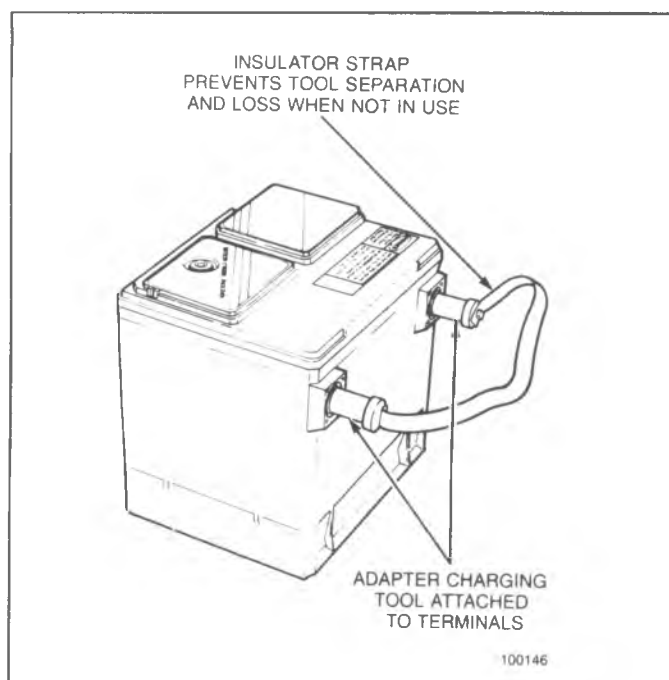

Fig. 6D-3B--Side Terminal Battery Adapters
- If voltage does not drop below the minimum listed in Fig. 6D-5B, the battery is good. Temperature of the battery will change the minimum voltage to pass the load test. See Temperature vs. voltage drop Chart, and estimate the temperature the battery has been exposed to for the last several hours.